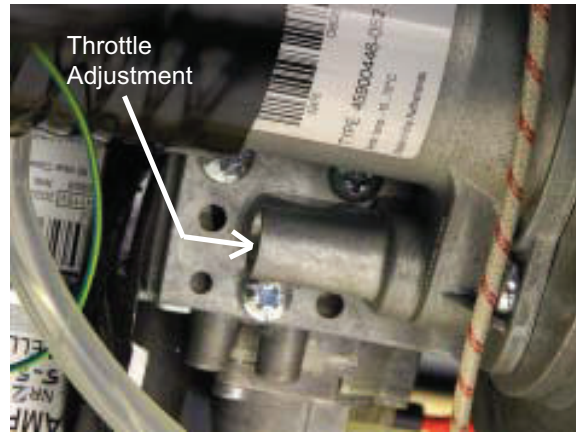

Fig. 6.0
1. With the Gas and Electrical supply off, undo the three screws that hold the Venturi to the Gas Valve. (**See Fig.6.0**)
8. Replace the Sealing Cover over the Throttle. (**See Fig 6.0 and Datable inside cover**)